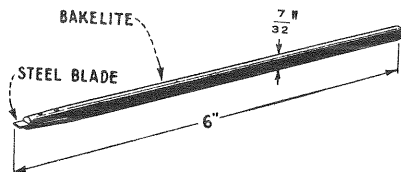

Figure 7— Dimensions of the non-metallic screw driver
A long, thin, non-metallic screwdriver. Such a screwdriver is shown in Figure 7 with its dimensions.
- (a) Procure a long, thin, non-metallic screwdriver (See Figure 7).